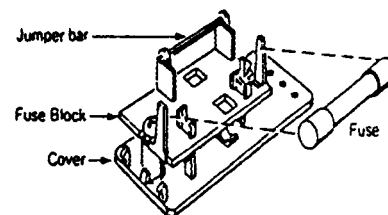

Figure 2.3 - American fuse
- 2.2.1 In **North America** and other locations where the AC supply voltage is 120V/60Hz, replace the fuse only with Type AGC,  $\frac{1}{4}$ " x  $1\frac{1}{4}$ ", Fast-Acting, 250 Volt, 1 Amp fuse as per Figure 2.3 below.